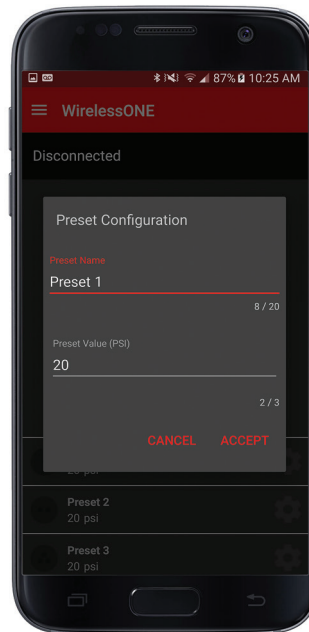

fig. D.5
1. The app must be connected to the manifold to change presets (Fig. D.5). Presets are stored on the manifold, so changes made in the app will also affect the wireless controller and vice versa.